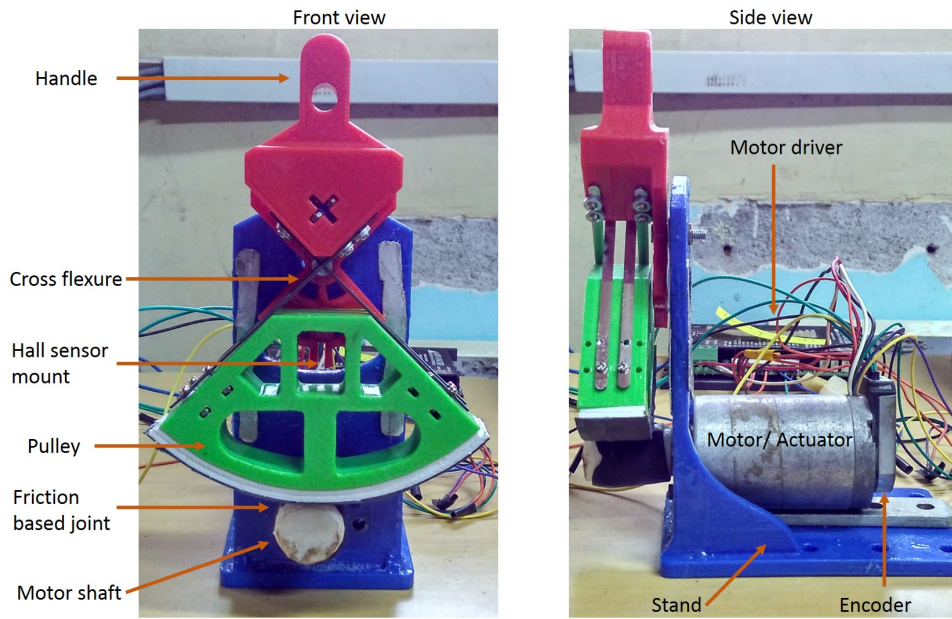

Figure 1: HandsOn-SEA - A single DoF educational robot with series elastic actuation [1]
The aim of this set up is to understand the design and control of a single degree of freedom (DoF) robot with series elastic actuation as shown in Figure 1.
1. In first part, students will learn the position control of the motor. The motor acts as an actuator to the series elastic actuator (SEA) set up shown in Figure 1.
2. In the second part, students will design a force controller. Observe in Figure 1 that the handle and the pulley are not rigidly attached. The force sensor is made up of a cross flexure (steel plates of small width) and a hall sensor. Cross flexure acts as a flexible link. A hall sensor attached on the handle measures the relative distance between the pulley and the handle. Hence for the known spring stiffness, one can measure the force by measuring the distance. Note that the actuator and the force sensor are non-located i.e., the point of actuation and control are separate.